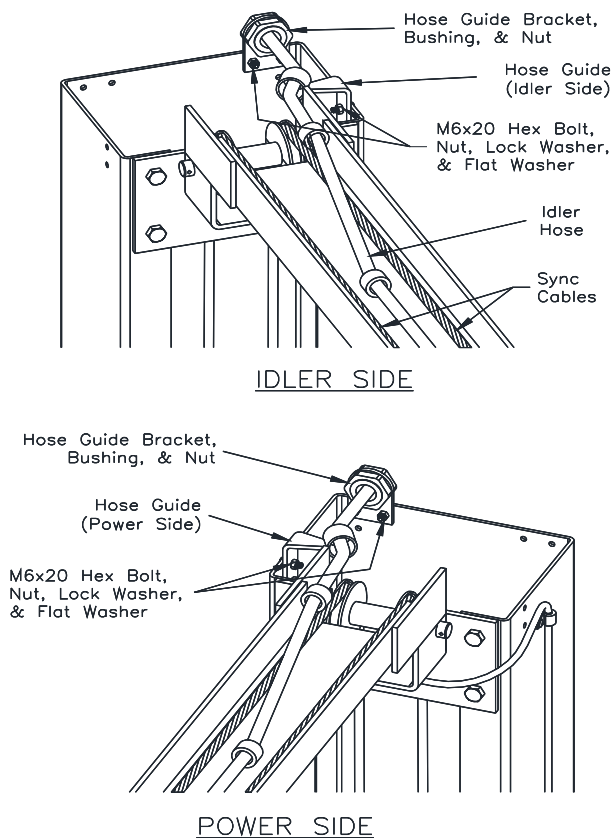

Fig. 7 – Column Extensions
- Attach bolt-on parts to column extensions as shown in **Fig. 7** and assemble to columns using M12 x 30 Hex bolts. Ensure power extension assembly is bolted to power column. NOTE: Install Nut and Washers on exterior of the assembly.
- 23) Beginning on the idler side, attach the idler hose to the cylinder elbow fitting. Route the idler hose (long) up the backside of the column and thru the plastic guide at the top of the extension. Continue across the overhead through each of the guides as shown in **Fig. 7** and down the backside of the power column.
- 27) Use hardware shown in **Fig. 7** to install bolt-on hose guide components.